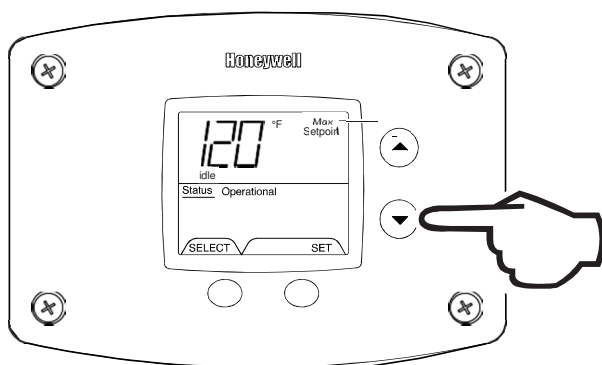

Figure 41
3. Press the 'UP' or 'DOWN' buttons to change the maximum setpoint value. This will limit the maximum setpoint the user can select. Note: The maximum setpoint is approximately 82C (Fig. 41).